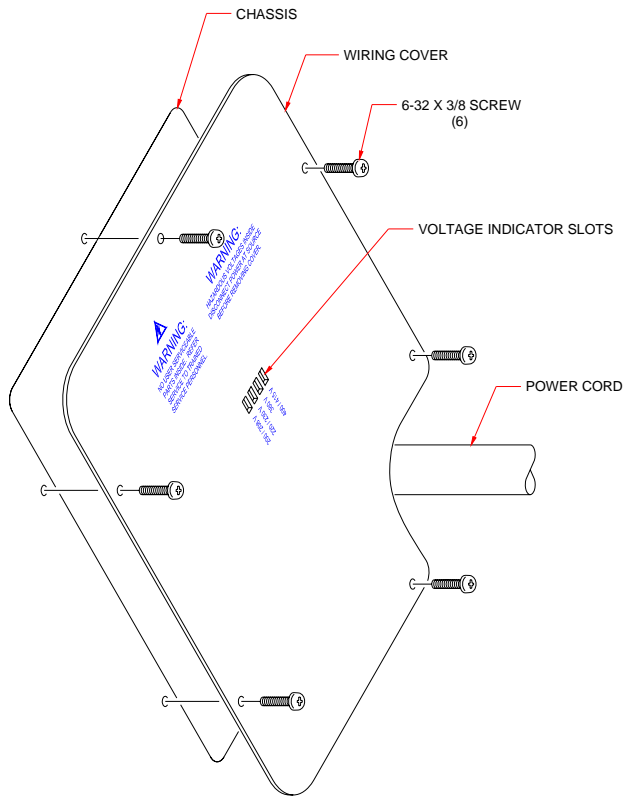

**Figure 3-6. Typical Power Input Wiring**
The Model 642 requires a 4 conductor power cord (not included). The input to the Model 642 is wired in a delta configuration, but will operate from a delta or wye source. If operating from a wye source, the neutral line (N) is not used. The ground (the green/yellow ground terminal) connects the instrument chassis to the electrical ground (safety ground), and is required to prevent fault conditions which may be hazardous to operating personnel. In no case should the safety ground line be omitted. In no case should a neutral line be used as a safety ground. If a detachable cord is used, always plug the power cord into a properly grounded receptacle to ensure safe operation of the instrument. All wiring must comply with the code requirements of the locality in which the instrument is installed. Figure 3-6 shows typical input wiring. The wire ferrules shown are not required, but are recommended to prevent stray strands from shorting to adjacent terminals.